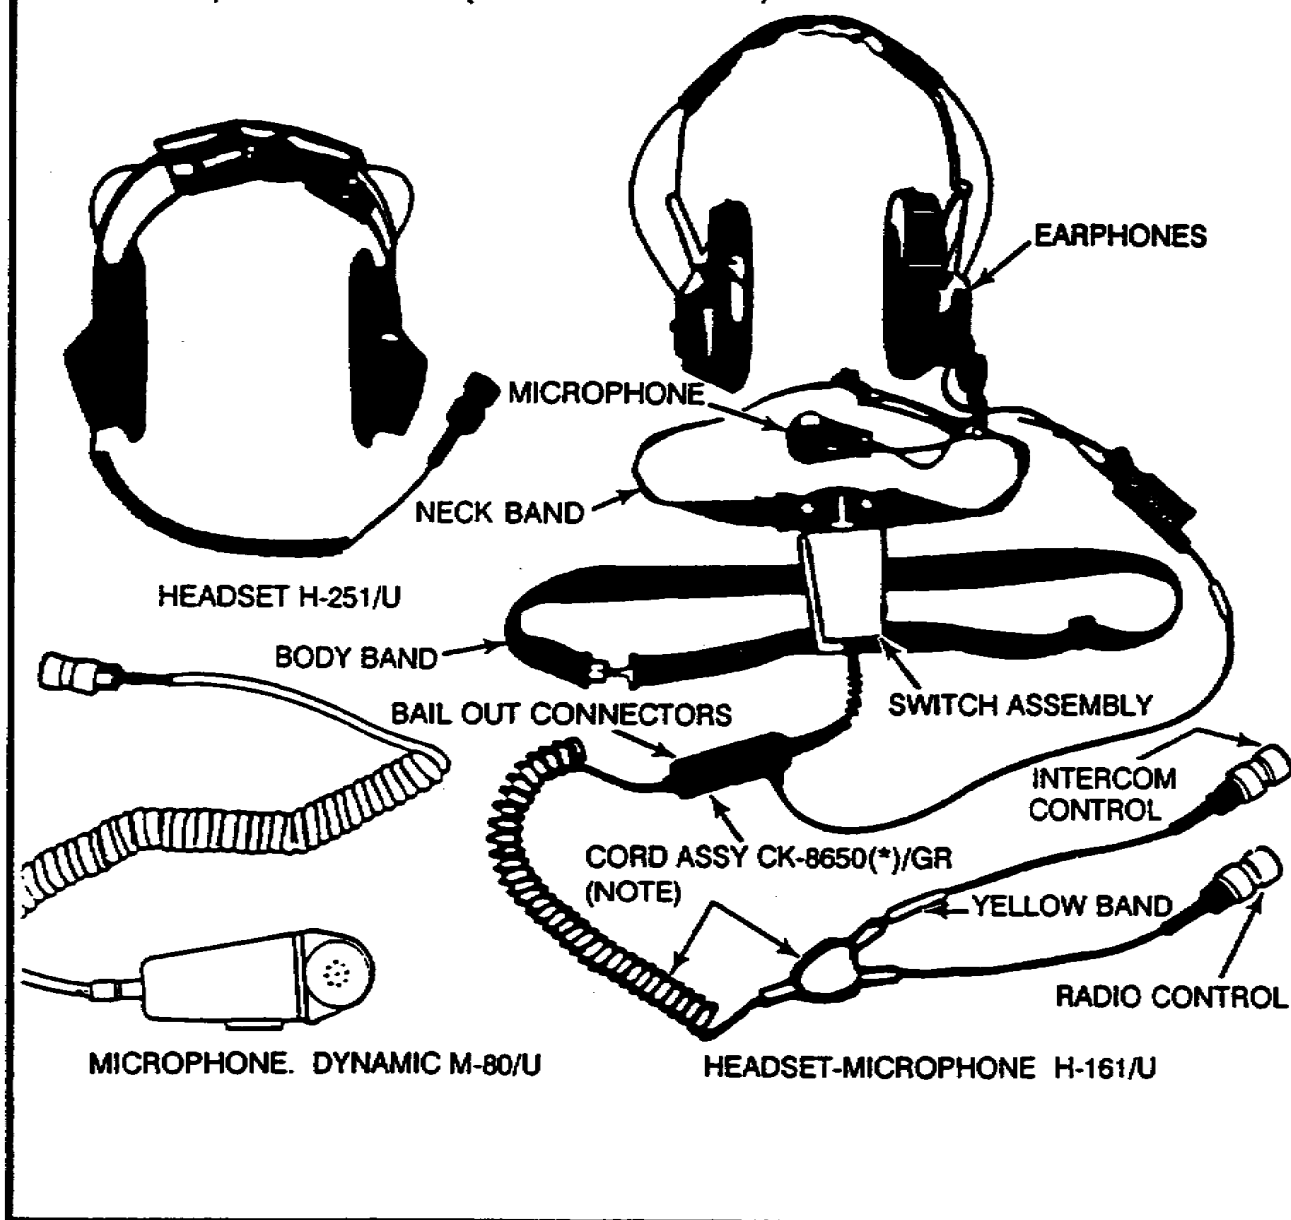

Figure 6. Typical audio accessories used with AN/VIC-1(V) control boxes.
j. See Figure 6. Typical audio accessories used with the intercom AN/VIC-1(V) include the microphone, dynamic M-80/U; headset H-251/U; headset-microphone H-161/U; and handsets H-189/GR or H-250/U (not shown).